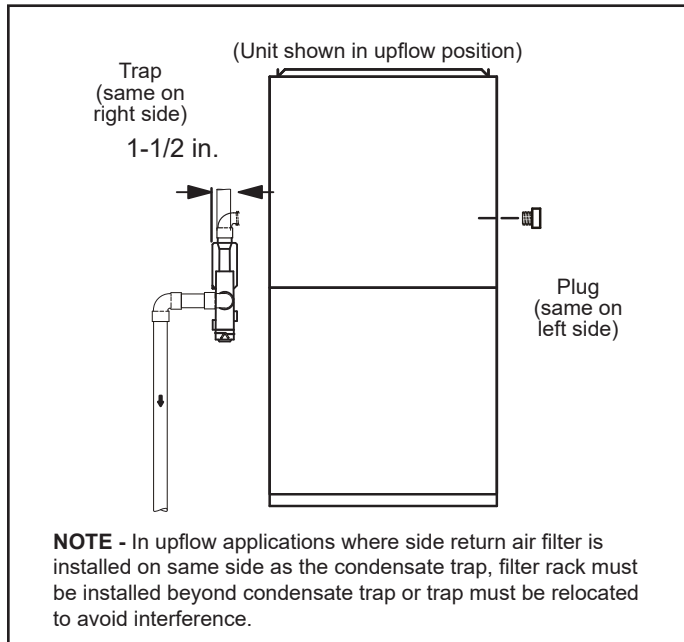
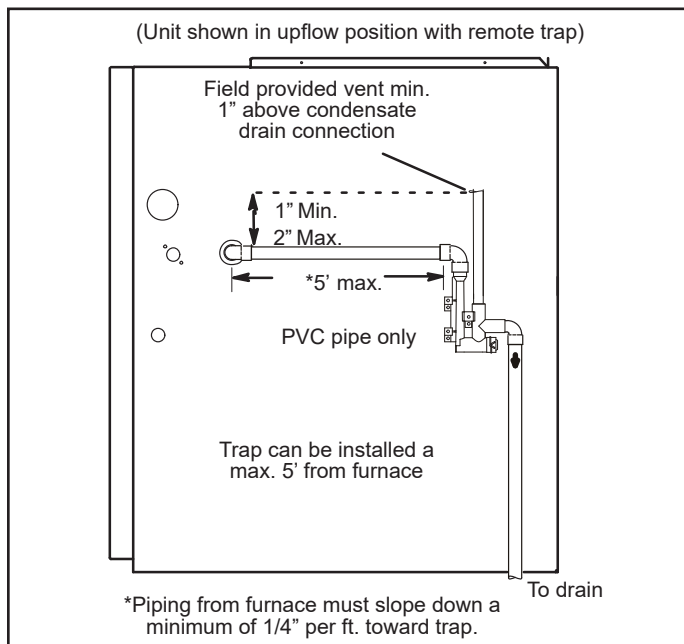
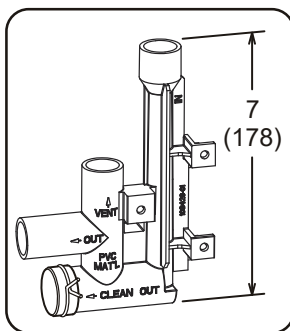

Figure 43. Condensate Trap and Plug Locations
Figure 44. Condensate Trap Locations
Figure 51. Trap / Drain Assembly Using 1/2" PVC or 3/4" PVC
This unit is designed for either right- or left-side exit of condensate piping in upflow applications. In horizontal applications, the condensate trap must extend below the unit. An 8" service clearance is required for the condensate trap. Refer to Figure 43 and Figure 44 for condensate trap locations. Figure 51 show trap assembly using 1/2" PVC or 3/4" PVC.
2. For furnaces with a 1/2" drain connection use a 3/8 allen wrench and remove plug (Figure 43) from the cold end header box at the appropriate location on the side of the unit. Install field-provided 1/2 NPT male fitting into cold end header box. For furnaces with a 3/4" drain connection use a large flat head screw driver or a 1/2" drive socket extension and remove plug. Install provided 3/4 NPT street elbow fitting into cold end header box. Use Teflon tape or appropriate pipe dope.
3. Install the cap over the clean out opening at the base of the trap. Secure with clamp. See Figure 51.
4. Install drain trap using appropriate PVC fittings, glue all joints. Glue the provided drain trap as shown in Figure 51. Route the condensate line to an open drain. Condensate line must maintain a 1/4" downward slope from the furnace to the drain.